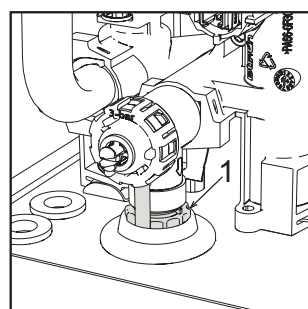

fig. 181 - Safety valve with drain faucet
To drain the system, turn the ring (ref. 1 - fig. 181) counter-clockwise to open the faucet. Do not use any tools; use hands only.